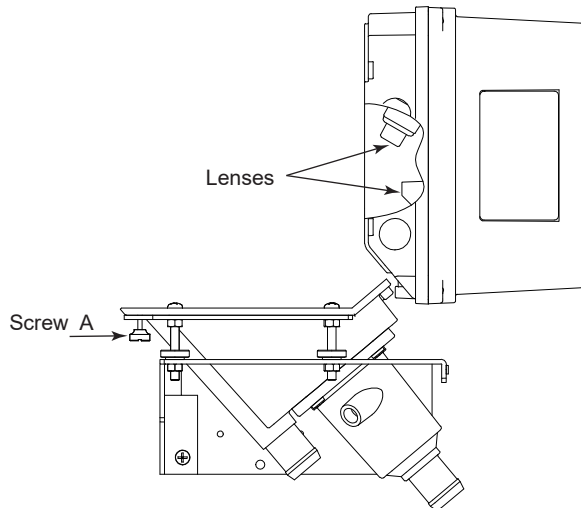

Figure 8.9 Lens positions
- (1) Stops supplying power to TB830D.
- (2) Loosen screw A under the detector and open the top cover (Figure 8.9).
- (3) Check whether or not the lenses in the detector are dirty. If they are, wipe them with cotton swabs. At this time, if the cotton swab is soaked with alcohol, it will become cleaner.
- (4) After cleaning the lenses, carry out zero and span calibrations.
- (5) End.